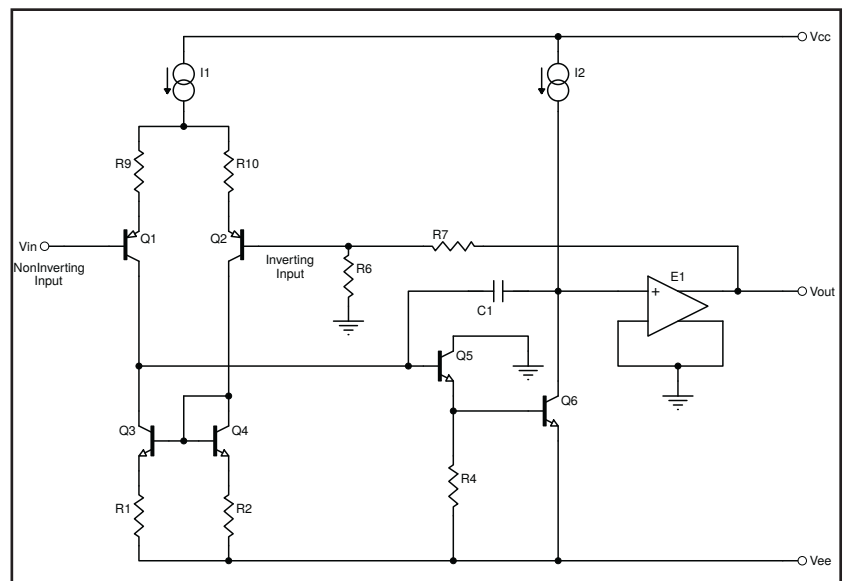

Figure 2: Transadmittance feedback gives rise to a transimpedance amplifier or a current-controlled voltage source (CCVS).
1. Shunt (Current) Applied, Shunt (Voltage) Derived Negative Feedback—In **Figure 2**, the feedback transfer function is a transadmittance, giving rise to a transimpedance amplifier or a transadmittance feedback amplifier.